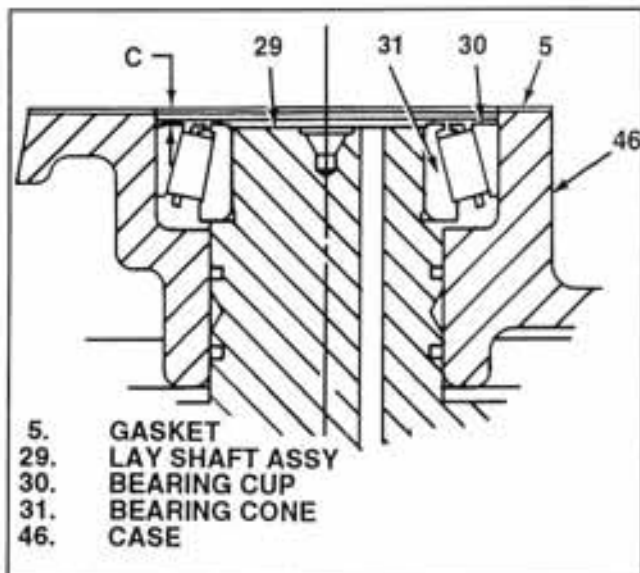

Figure 5-22. Determining Lay Shaft Bearing Shim Thickness
1. Install bearing cone (31) and bearing cup (30). Position new gasket (5) on pump mounting face of case (46) and determine thickness of shim(s) (6) to be used at lay shaft bearing as follows:
a. Push down firmly on lay shaft assembly (29) and bearing cup (30) (see figure 5-22) to make sure parts are seated.
b. Measure and record dimension C as shown in figure 5-22 [from top face of gasket (5) to top face of bearing cup (30)].